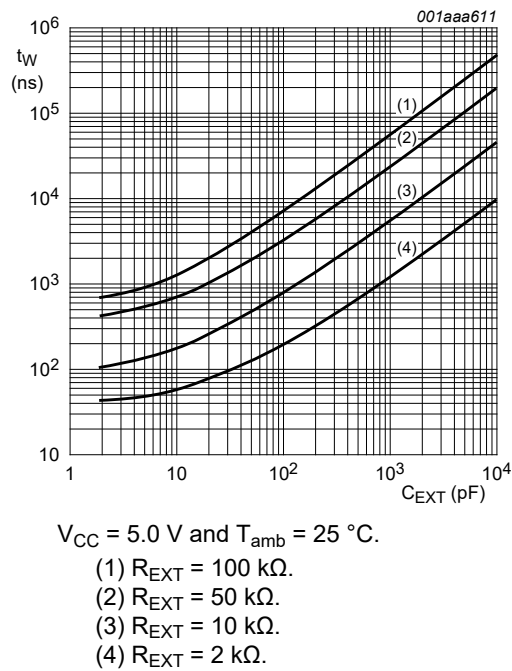

Fig. 6. Typical output pulse width as a function of the external capacitor values
nB input HIGH; see Fig. 5 and Fig. 6
$n\bar{RD}$ input LOW; see Fig. 5 and Fig. 6
- [3] For other R_{EXT} and C_{EXT} combinations see Fig. 6. If $C_{EXT} > 10$ pF, the following formula is valid:
To set the minimum pulse width, when $C_{EXT} < 10 \text{ nF}$, see Fig. 6 and when $C_{EXT} > 10 \text{ nF}$, the output pulse width is defined as: